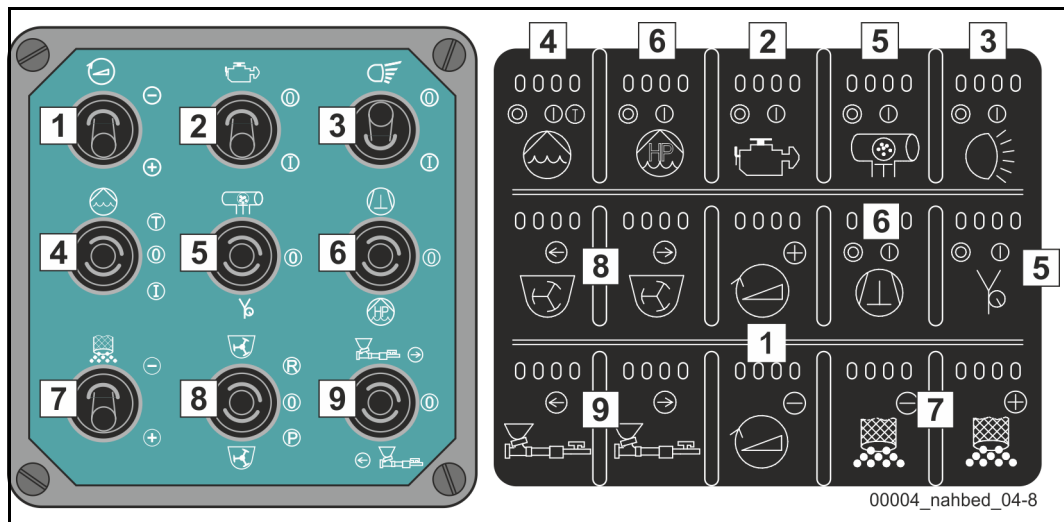

Fig. 433 Local control keypad
- If you switch on the HP pump using the local control (6)  (Fig. 433), the pump will draw its water from your machine's water case. If the trigger is not actuated, the HP pump cannot pump water to the spray lance.